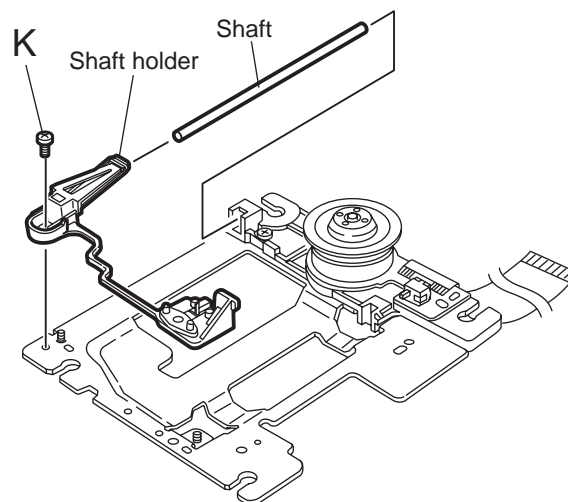

Fig.2-25
2.3.4 Removing the shaft holder / shaft (See Fig.2-25)